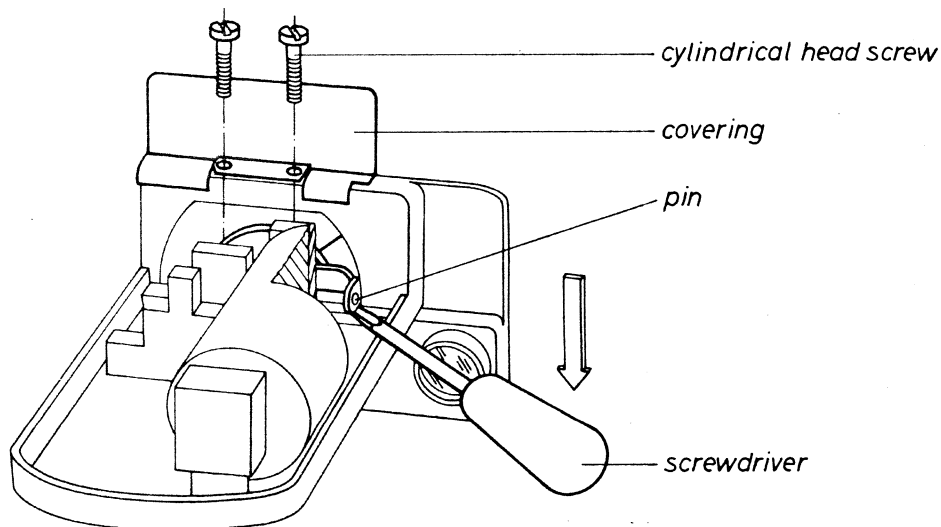

Fig. 39.1
- 3.7 If this is not the case, unscrew two cylindrical head screws serving to secure covering, with the aid of screwdriver 3.5 $\emptyset$, and remove the covering (see Fig. 39.1). Screw in the two cylindrical head screws again.
3.11 If this is not the case see procedure 3.7. If the claw passes beyond the second graduated mark, raise the end of the pin for the claw guide slightly, using screwdriver 3.5Ø (see Fig. 39.1).
3.12 Using screwdriver 3.1 Ø unscrew the two cylindrical head screws and secure the covering (see Fig. 39.1).